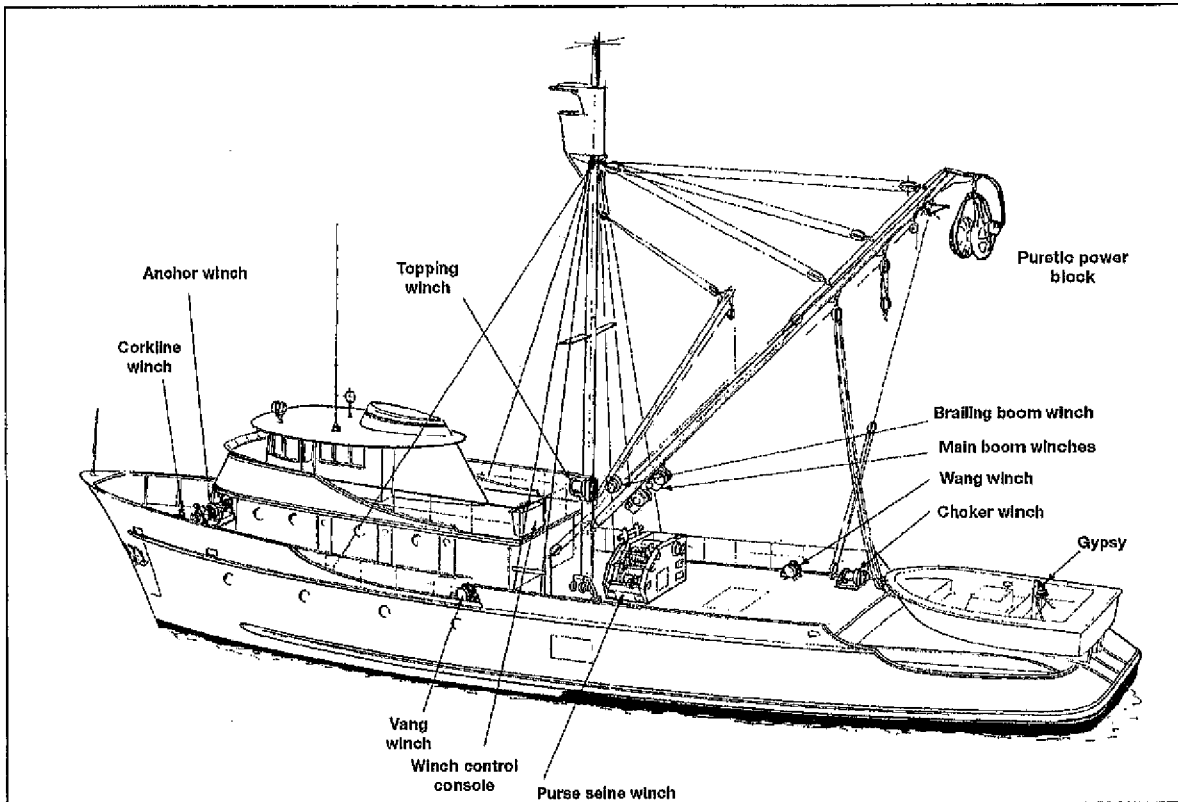

Fig 2.9 Deck Layout of a Large Purse Seine Operation
- Figure 2.9 shows the deck layout of a large tuna purse seiner showing the various parts of deck equipment used in the fishing operation.